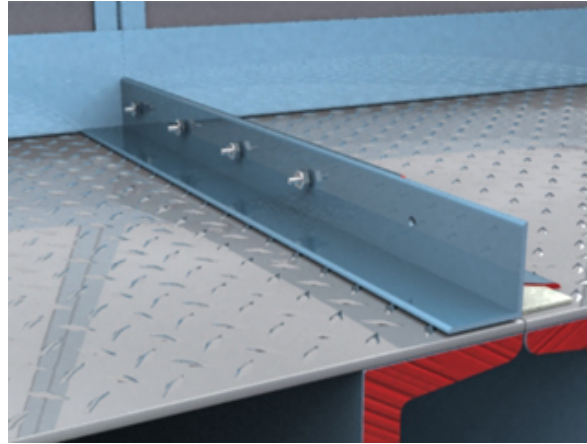
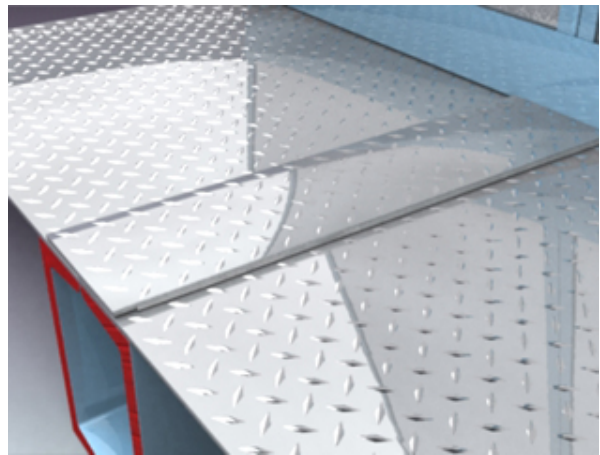

Figure 7: Base Joining Flanges Detail.
Figure 8: Base Joining Flat Strip Detail.
4) Attach the units by bolting together the base joining flanges (ref. Figure 7 and Figure 15). If necessary, pull the section together mechanically from the base with a come-along or similar device. Before pulling sections together secure first section to mounting surface. There may be situations, such as in corridors, where flat strips or T-strips are provided instead. Continuously weld flat strips to floor (ref. Figure 8) and continuously caulk T-strips (ref. Figure 9).